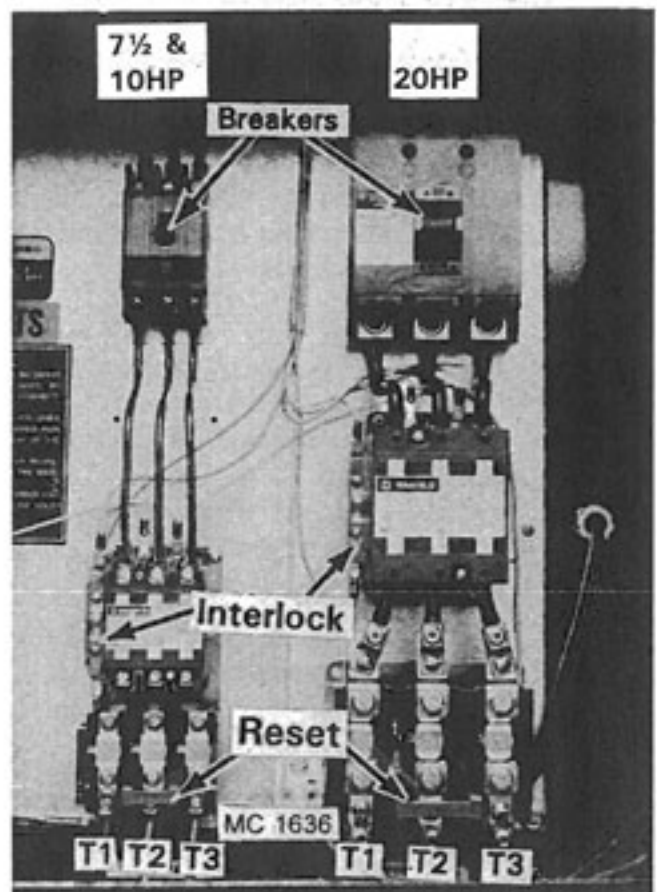

Figure 9 - Fan Magnetic Starters - 3 Phase 230V
- A. **Three phase motors** - Move the wire from terminal T1 to T3 and T3 to T1 on the fan magnetic starter in the lower control cabinet. See Figure 9.